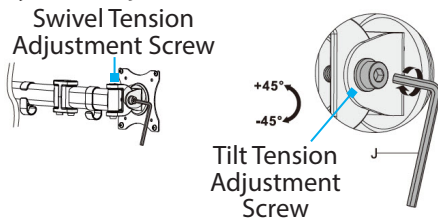

Figure 10
- Loosen the **Tilt Tension Adjustment Screw**, located on the side of the **VESA Mount** on the **Swivel Arm (A)**, by 1/4 turns until adequately loose, make the desired adjustments to the tilt angle, and tighten the **Tilt Adjustment Screw**, using the **6 mm Hex Key (J)**. (Figure 10)